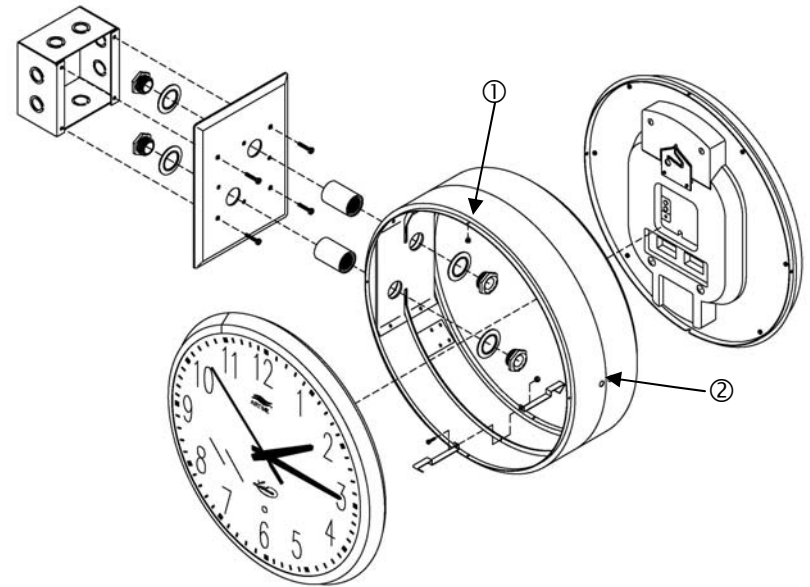

Figure 2: 12 inch Double Mount Installation
Hang one clock on the screw located at the 12 o'clock position (Fig. 2, #1) and snap clock into place.
5. Hang the second clock on the screw located at the 12 o'clock position (Fig. 2, #1) and snap clock into place.
6. Once the clocks are in place, install a #4 x 1/4" screw in each clock at the 3 o'clock or 9 o'clock position (Fig. 2, #2) in the outside case for additional security.